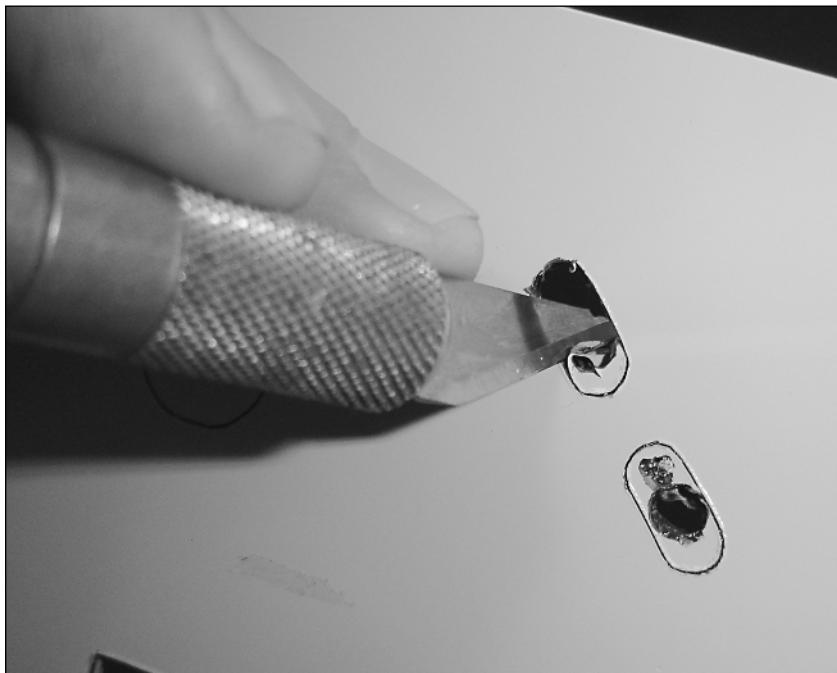

FIGURE 7-4: Grabbing through drill hole and bending plastic apart.
- Smaller shapes: Use an X-Acto knife to carve away from the pilot hole along the sides of the shape (see Figure 7-4).